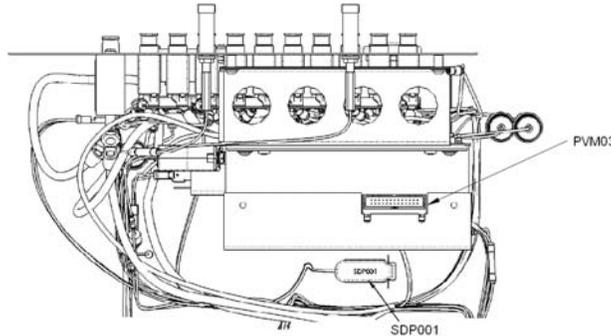

Figure 31-22 Top View of the CB Panel Showing the Connectors
7. Disconnect PVM03A ribbon cable connector from the DPU PVM03 connector. See Figure 31-22 for the location of PVM03A connector.
11. Connect PVM03A ribbon cable connector from the DPU PVM03 connector. See Figure 31-22 for the location of PVM03A connector.
8. Connect PVM03A ribbon cable connector from the DPU PVM03 connector. See Figure 31-22 for the location of PVM03A connector.